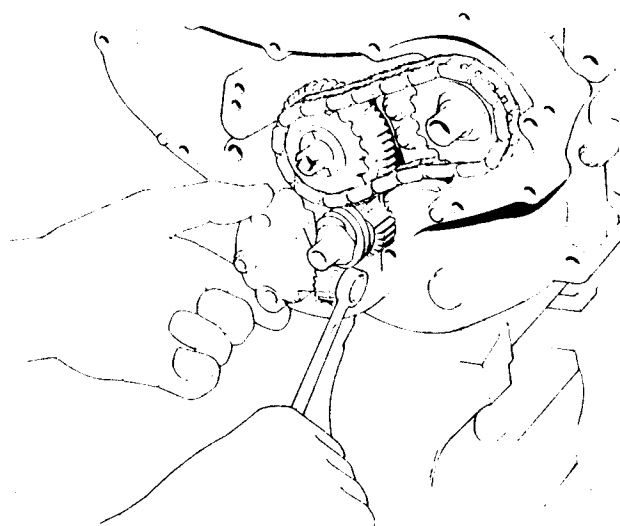

Fig. C21 Using a spanner to turn the oil pump drive wheel nut and remove the pump
- 7 Remove the two nuts securing the oil pump. The oil pump may be quite tight on its studs and in these circumstances it is advantageous to turn the oil pump drive wheel nut so that the oil pump will pull itself away along the worm drive. This operation is shown in *Fig. C21*.